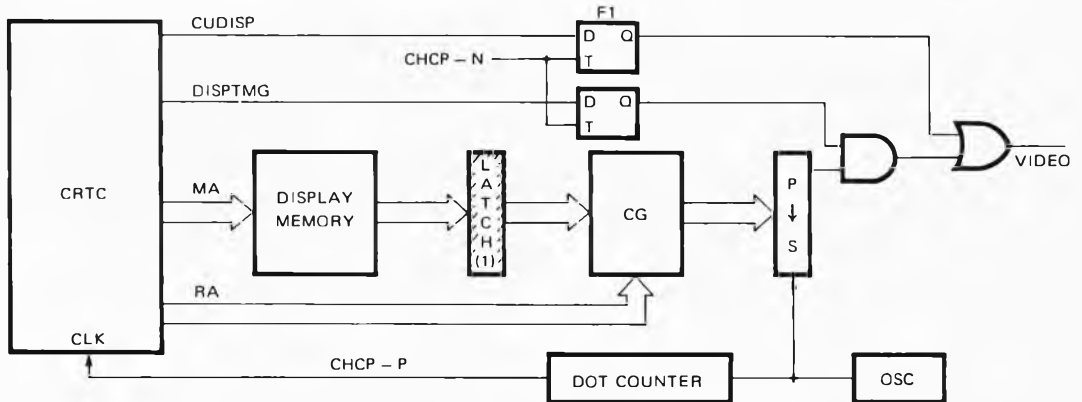
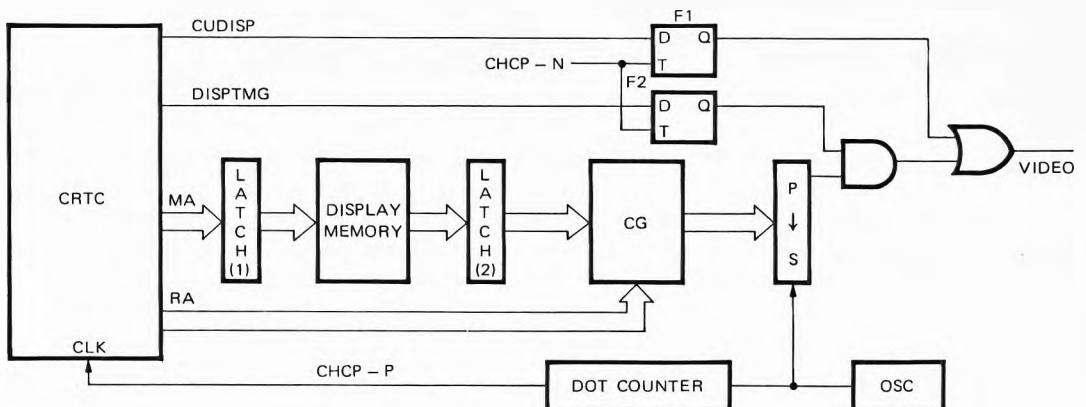
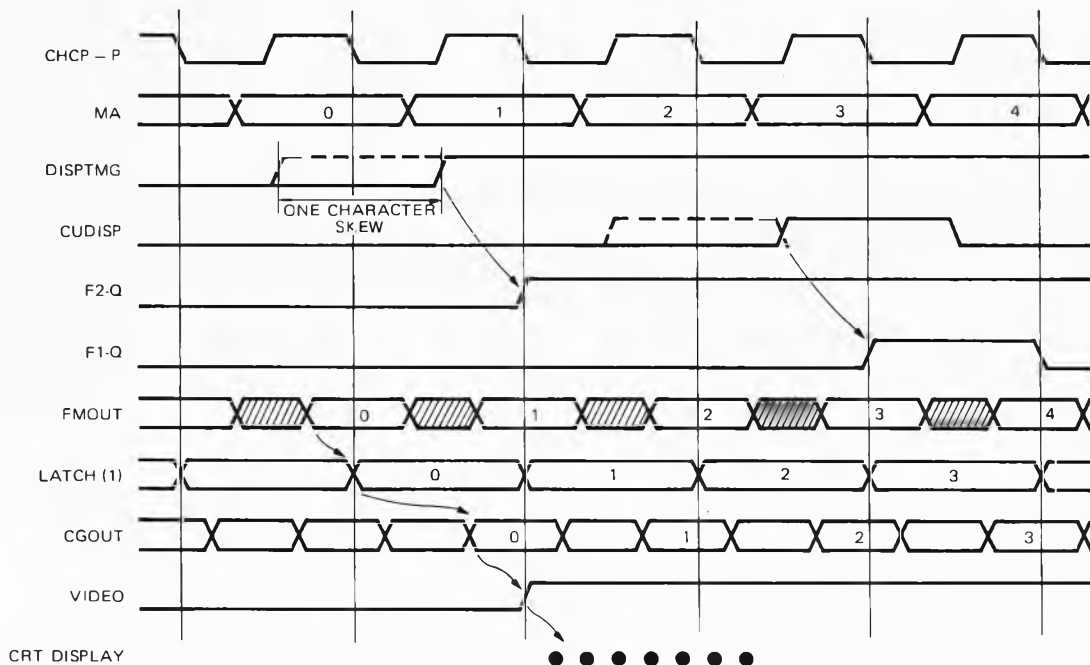
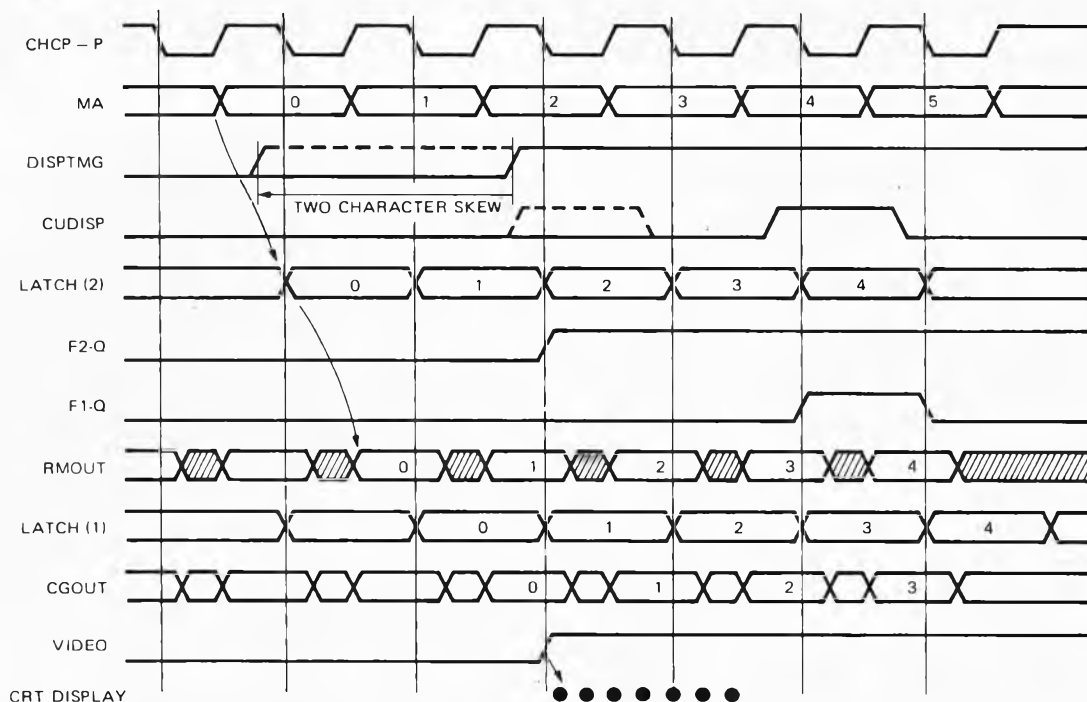

Figure 13. Display Control Unit (2)
Figure 14. Display Control Unit (for high-speed display operation) (3)
Figure 16. Time Chart of Display Control Unit (2)
Figure 17. Time Chart of Display Unit (3)
When many characters are displayed horizontally on the screen and horizontal one-character time is so short that neither display memory nor CG can be accessed, the circuitry shown in Fig. 13 should be used. In this case, display memory output is latched and the CG is accessed at the next cycle. The time chart in this case is shown in Fig. 16. CUDISP and DISPTMG signals should be provided after being delayed by one-character time by using the skew bit of interface and the skew register (RS). Moreover, when there are troubles in the delay time of MA during horizontal one-character time on high speed display operation, the system shown in Fig. 14 should be adopted. The time chart in this case is shown in Fig. 17. Character video signal is delayed for a two-character time because each MA output and display memory outputs are latched and are made to be in phase with CUDISP and DISPTMG signals by delaying for a two-character time. Table 1 shows the circuitry selection standard of display units.